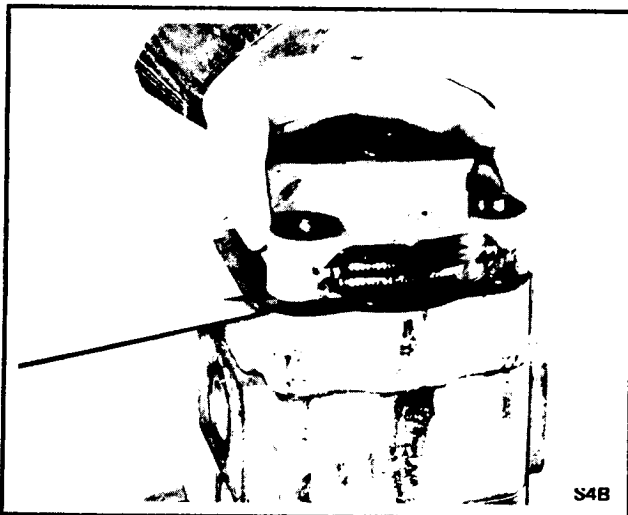

Fig. 5 - Removing Port End Cover
3. Lift off the port end cover. If necessary to pry loose, be careful not to damage the machined surfaces. See Fig. 5. If the thrust plate remains in the gear housing, it can be tapped out later with a wooden hammer handle. Be careful not to distort the thrust plates.